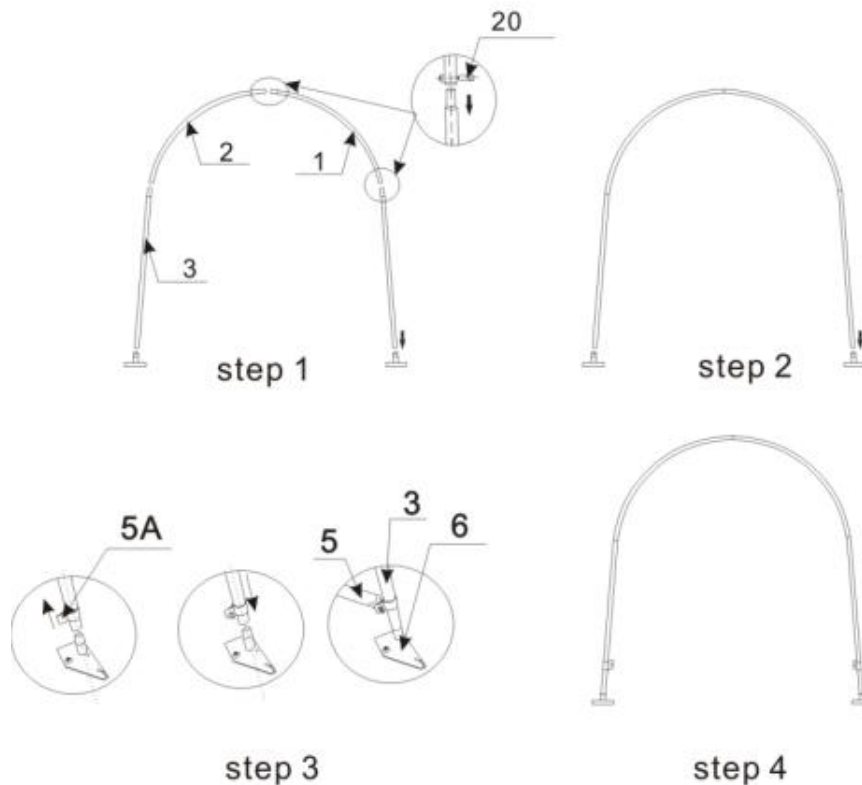

Figure 3
1. Please refer to Figure 3 for frame assembly, find one piece of top bent tube (No. 1), one piece of top bent tube (No. 2) and two pieces of Upright (No. 3) and assemble every group arch with Bolt M8x70 (No. 20). There are seven groups of arch. Assemble each group arch by turns.
3. By this way, install another arch and then connect them by purlins. There are seven arches and four groups of purlins. You may refer to Figures 3 to find where the parts are when you are doing this.